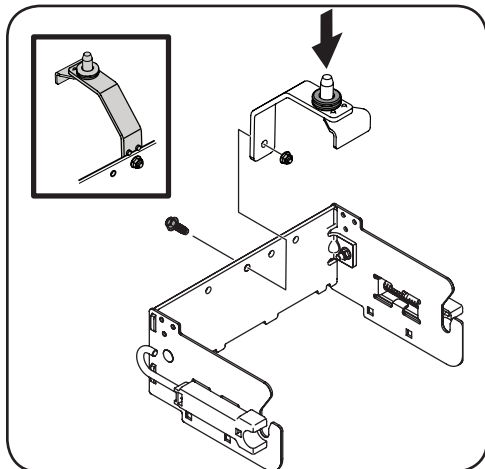

Figure 2-2
3. Flip over bracket assembly and mount the pin hitch support assembly (ref. #2) on the center hole of the rear support bracket using the hex screw (ref. #10) and flange lock nut (ref. #12). See Figure 2-2.
4. Attach the rubber grommet to the pin at the bottom of the bracket support assembly. See inset in Figure 2-2.